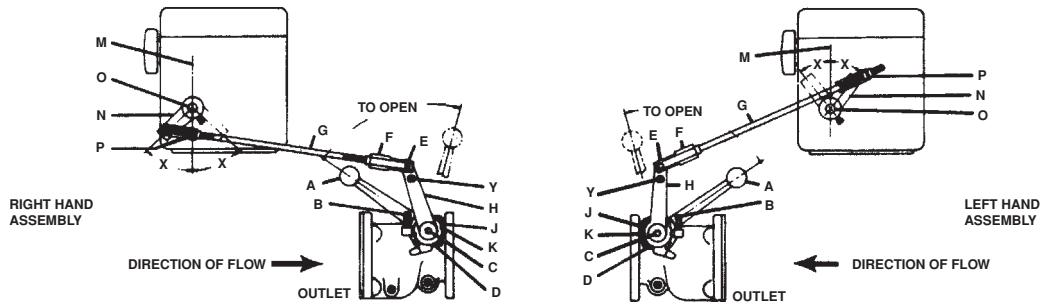

FIGURE 8
1. Depress the emergency stop button on the register and turn the shaft (O) clockwise.
2. Assemble register arm (N) on knurled knob in position as shown for specific assembly. (See Fig. 8). Arm should move an equal distance each side of vertical center line (M) (Angle x = x).
3. Assemble valve arm (H) as shown for specific assembly. On the right hand assembly there must be one notch between the cast mark (K) on the valve arm and the cast mark (J) on the stop plate (J above K). On the left hand assembly these cast marks must be in line.
4. Assemble one nut (P) on connecting rod (G) and assemble clevis to the other end of the connecting rod a distance of 1".
5. Insert end of connecting rod through register arm link and assemble clevis (F) to valve arm (H) using upper hole. (See Figure 8). Insert clevis pin (E).
6. Open valve all the way. The opening of the valve is stopped by the set screw (B) which should project approximately $\frac{1}{8}$ " below the lug holding it. Turn shaft (O) counterclockwise to latch up mechanism. With valve held open, tighten nut (P) against register arm link. Then assemble and tighten second nut at (P).